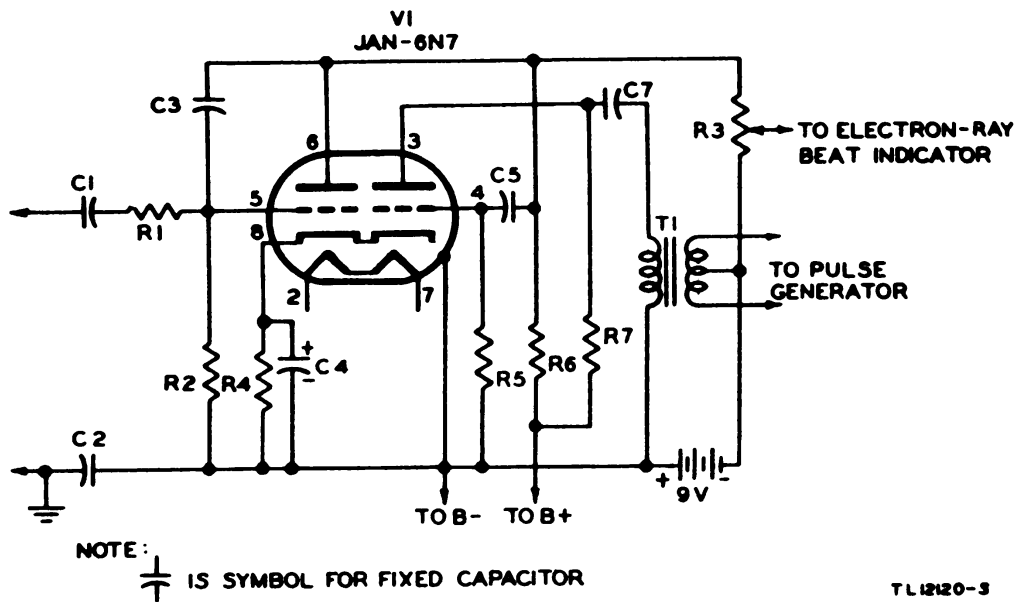

Figure 18. Simplified schematic of audio amplifier, frequency meter section.
57. AUDIO AMPLIFIER, FREQUENCY METER SECTION (fig. 18).